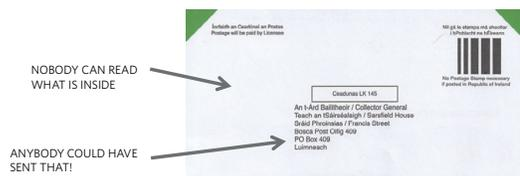

Figure 3. Confidentiality allows you to protect data against unauthorized access.
**Confidentiality:** Protects data from access by those not authorized to see or use it. Our traditional thoughts about secret codes and encryption fall into this category. If we go back to our postcard example, you can achieve confidentiality by putting your message inside a lined envelope—the idea being that no one can see the message while it is in transit (Figure 3) In the real world you unlock the message by opening the envelope; in the digital world you unlock the message by reversing the encryption process with